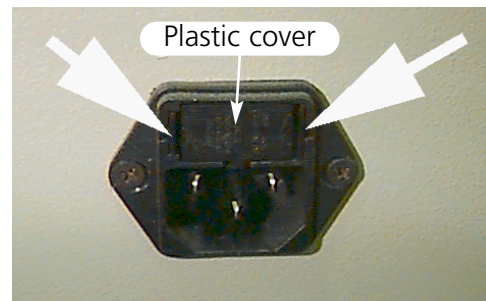

Figure 4-20
2. Directly above where the power cord plugs in is a small plastic cover (see Figure 4-20). Use your fingernails to unclip each side of this cover in the locations shown in Figure 4-20.